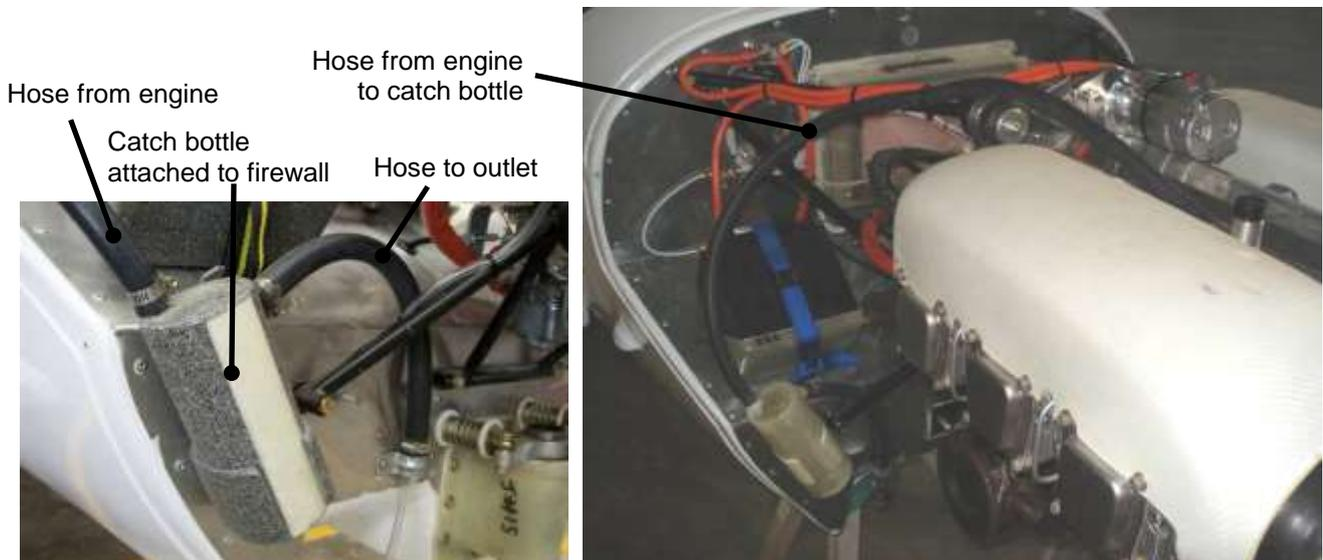

Figure 8. Crankcase Breather Installation
- The Jabiru 3300 engine has a crankcase breather connection built into the dipstick housing. This is to be connected as shown in Figure 8 below.